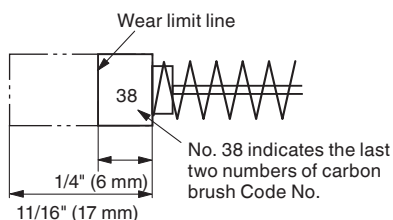
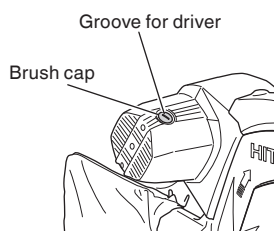

Fig. 51
Fig. 52
2. Inspecting the carbon brushes (Fig. 51 and Fig. 52)
Therefore, inspect the carbon brushes periodically and replace them when they have become worn to the wear limit line as shown in Fig. 51.
The carbon brushes can easily be removed after removal of the brush caps (see Fig. 52) with a slotted (minus) screwdriver.
NOTE: When replacing the carbon brushes, use only Hitachi carbon brushes having “38” in the last two digit of its Code No. (see Fig. 51). If you use other carbon brushes, the electric brake will not operate.